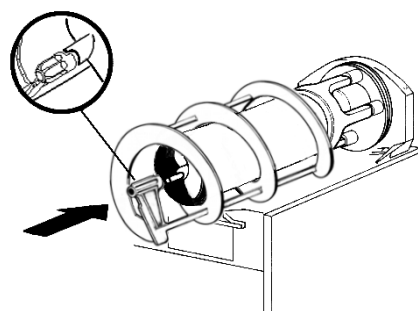

figure 14
- 6 - Install the outer spiral. Slide it over the evaporator until its front notch engages with the exposed end of the auger shaft (see figure 14).